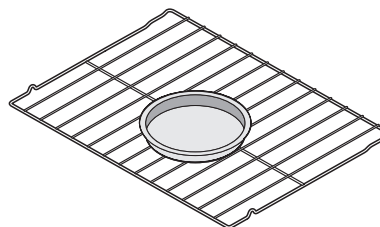
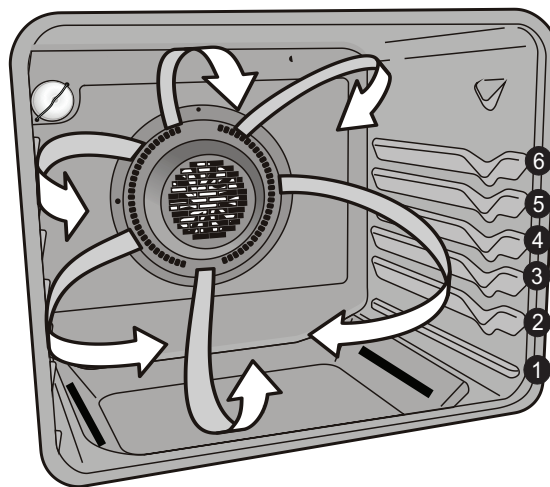

Figure 10: Single rack baking for convenience foods
Figure 11: Oven rack position (4) best for cooking convenience foods
- Always place food in center of the oven on rack position 4 (Figure 11). Place the food as shown in Figure 10.